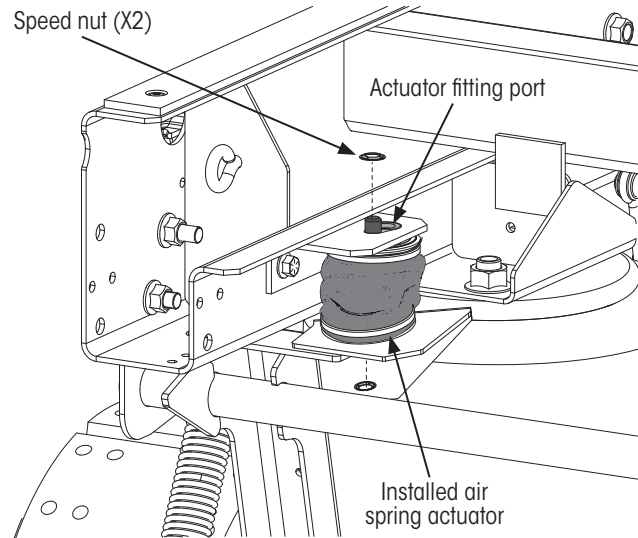

Figure 16: Installing air spring actuator
3. Position the air spring actuator between the upper actuator bracket and support arm assembly actuator bracket as shown in Figure 16 (fitting port pointing upward).
5. Rotate air spring actuator so the port for the air fitting protrudes through the upper actuator bracket (Figure 16).
6. Using a 1/2 deep-well socket, press a speed nut on the top and bottom mounting stud of the air spring actuator (Figure 16).